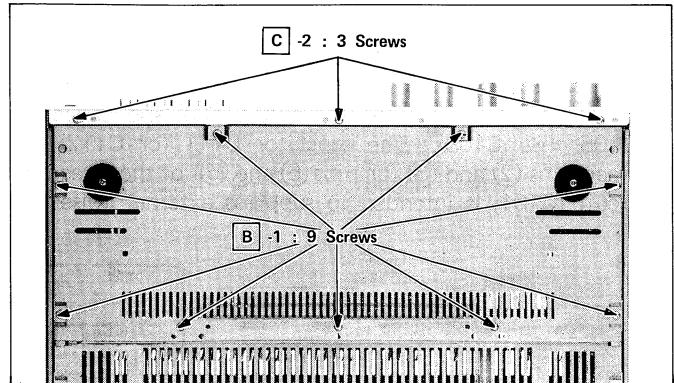

Figure 3-2
1. Turn the set over and remove the nine screws retaining the bottom lid, then the bottom lid can be detached by holding it up. (Refer to Figure 3-2)
2. Remove the five screws and the push rivet retaining the front panel, then the front panel can be detached by pulling it toward you. (Refer to Figures 3-2 and 3-3)